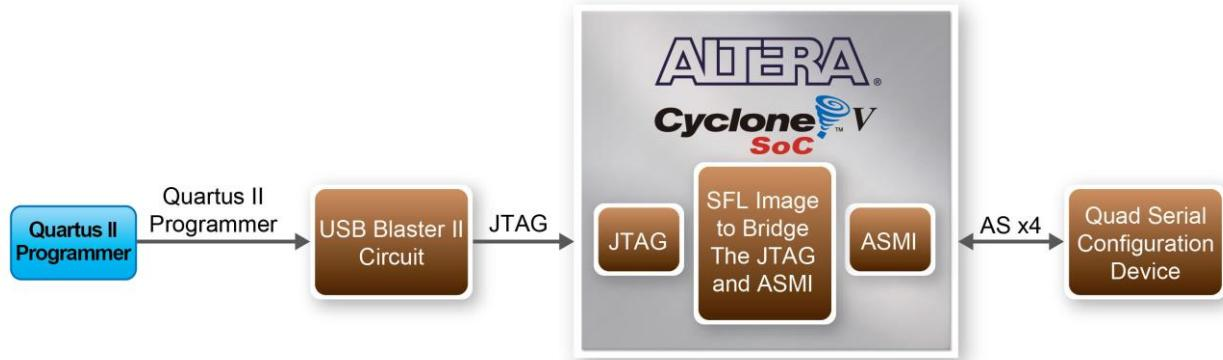

Figure 3-9 Programming a Quad Serial Configuration Device with the SFL Solution
- To program the configuration device, users will need to use a Serial Flash Loader (SFL) function to program the quad serial configuration device via the JTAG interface. The FPGA-based SFL is a soft intellectual property (IP) core within the FPGA that bridges the JTAG and flash interfaces. The SFL mega-function is available from Quartus II software. Figure 3-9 shows the programming method when adopting a SFL solution